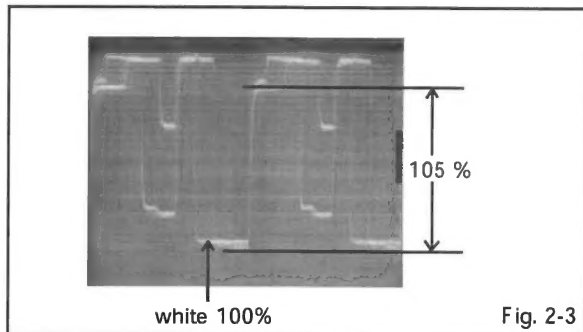

Fig. 2-3
6. Press the VOL. UP/DOWN button on the remote control until the red color level is adjusted to $105 \pm 5\%$ of the white level. (Refer to Fig. 2-3)